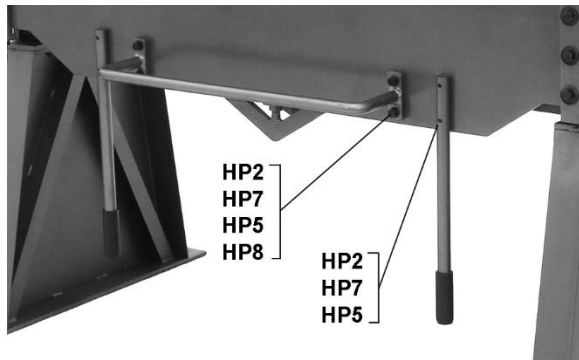

Figure 4
6. Install handles to front of apron (Figure 4).